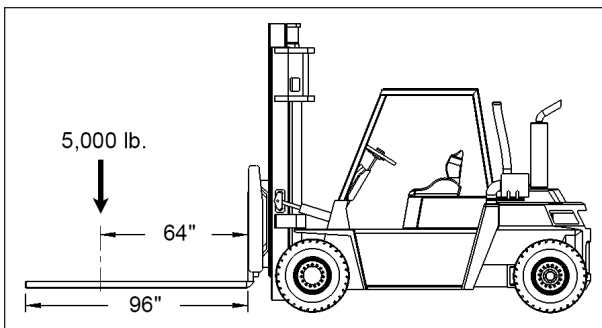

FIGURE 16: FORKLIFT MINIMAL LOAD AT 64"
- A minimal capacity of 5,000 lb. (2,268 kg) at 64" (1.6 m) with 96" (2.44 m) extension forks see Figure 16.